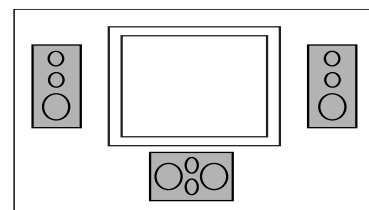

Figure 3.
**S4HC:** If you have purchased the horizontal channel speaker (model S4HC) for the center position, be sure to position it horizontally during installation in order to take advantage of its sound-dispersion characteristics. If you mount it vertically, it will not provide the correct dispersion pattern. Although the preferred speaker model to be used with a perforated projection screen is the vertical model S4VC (above), the S4HC horizontal speaker may be used instead and should be mounted behind the center of the screen. If a nonperforated projection screen, plasma display or other fixed video device is being used in the installation, then the recommended location is directly below and as close as possible to the video display (see Figure 3), although the inverse of this method will work also.